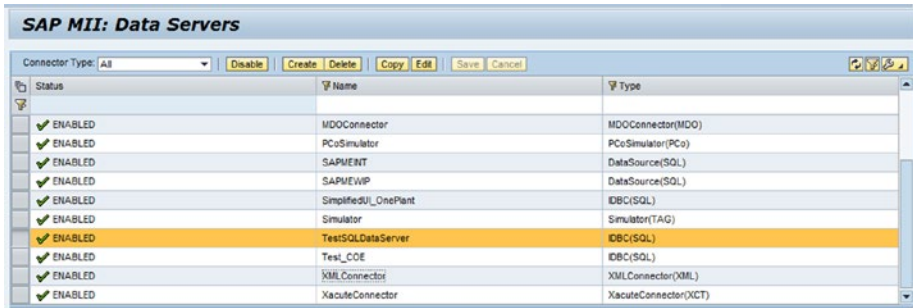

Figure 3-5. Other buttons in SAP MII Data Servers configuration
5. You can also delete, copy, and edit the selected connector by using the buttons shown in Figure 3-5.